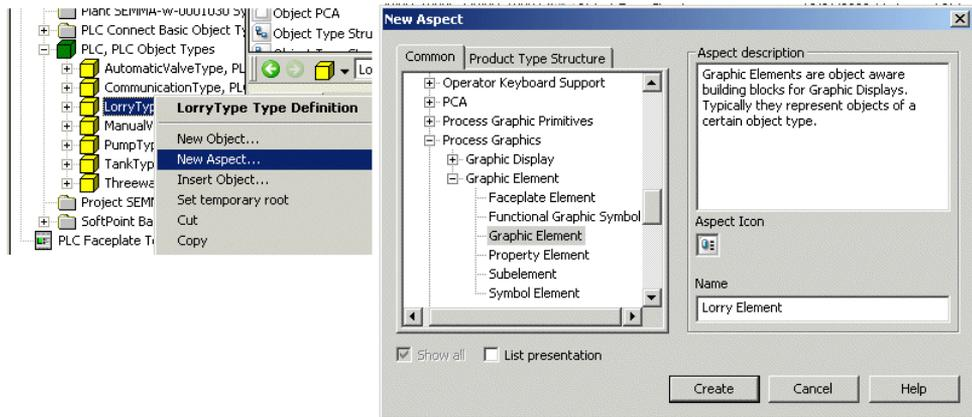

Figure 105. Create Graphic Element Aspect
1. Select an object type object in the **Object Type Structure**. See Figure 105.